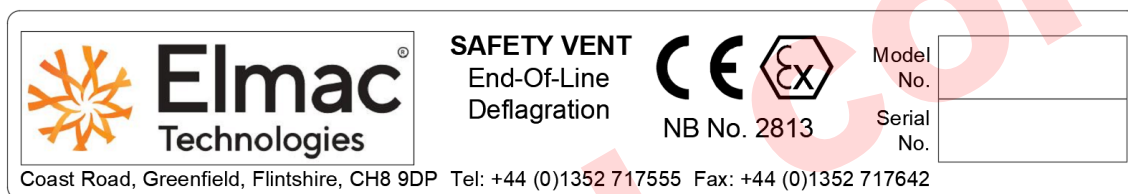

Figure 1 – Nameplate General Layout
Safety Vent arresters are fitted with nameplates (refer to figure 1), stating the following information: -
- The user/installer shall be cognisant of the critical parameters which will be detailed on the fitted nameplates (refer to Figure 1 - Nameplate General Layout).